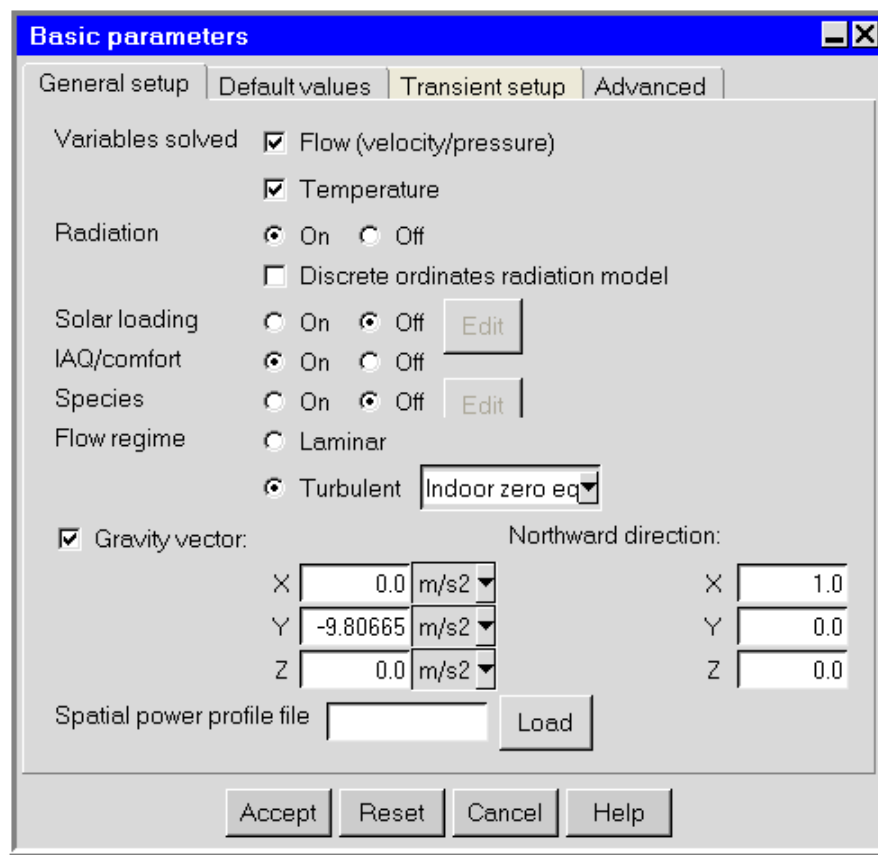

Figure 22.3.1: The Basic parameters Panel (General setup Tab)
1. Enable the calculation of radiation in the **General setup** tab of the **Basic parameters** panel. To open the **Basic parameters** panel (Figure 22.3.1), double-click the **Basic parameters** item under the **Problem setup** node in the **Model manager** window.